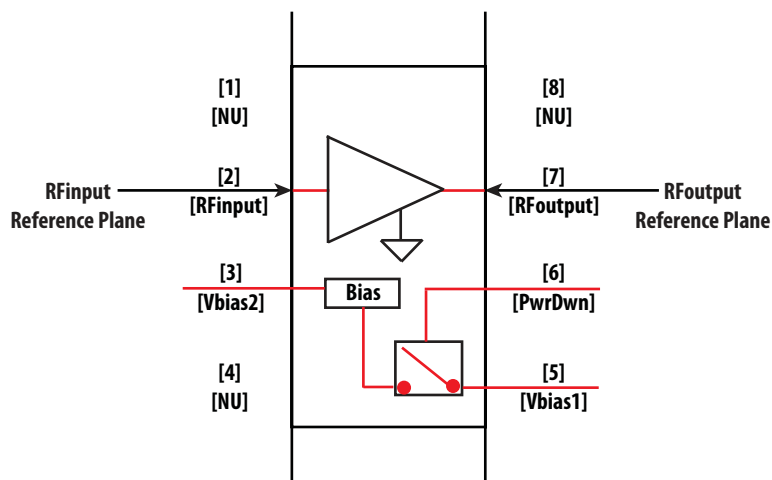

Figure 25. RFinut and RFoutut Reference Plane
2. Scattering and noise parameters are measured on coplanar waveguide made on 0.010 inch thick ROGER 4350. The input reference plane is at the end of the RFinpin and the output reference plane is at the end of the RFoutpin as shown in Figure 25.